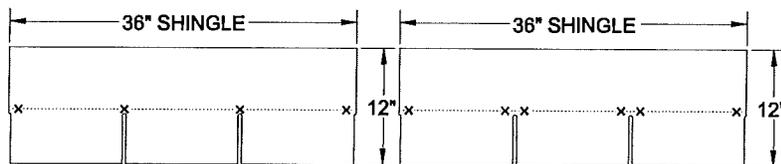

Figure 26. Shingle fastener locations for Wind Zone I (left) and Wind Zones II and III (right).
2. **Install shingles.** If shingles have been left off at the ridge line for site installation, install them now using 12 ga x 1-1/4" long, 3/8" diameter head roof nails or 16 ga 1" crown x 1" length staples. For Wind Zone I, fasten at 5/8 inch above each tab cutout slot and one at each end of the shingle one inch in from the edge (four fasteners for a three-tab shingle) (Figure 26). For Wind Zones II and III, use two fasteners 5/8 inch above and on either side of the tab slots and one at each end of the shingle one inch in from the edge (six fasteners for a three-tab shingle). Do not fasten through the shingle tar line.